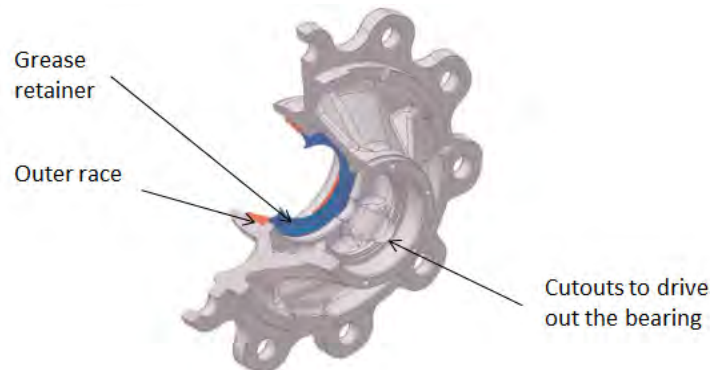

Figure 59 — Outer Race
2. Remove the outer races of the bearings, which are inside the hub (see Figure 59).